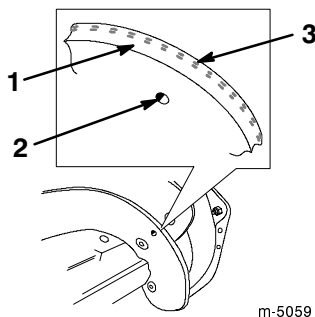

Figure 16
1. Examine a new rotor blade edge for the difference in the thickness of the rubber layers (Fig. 16).
Install the rotor blades with the thick rubber layer on the *inside* of the curve. (Fig. 16). If you do not install the rotor blades properly, they will wear more quickly.